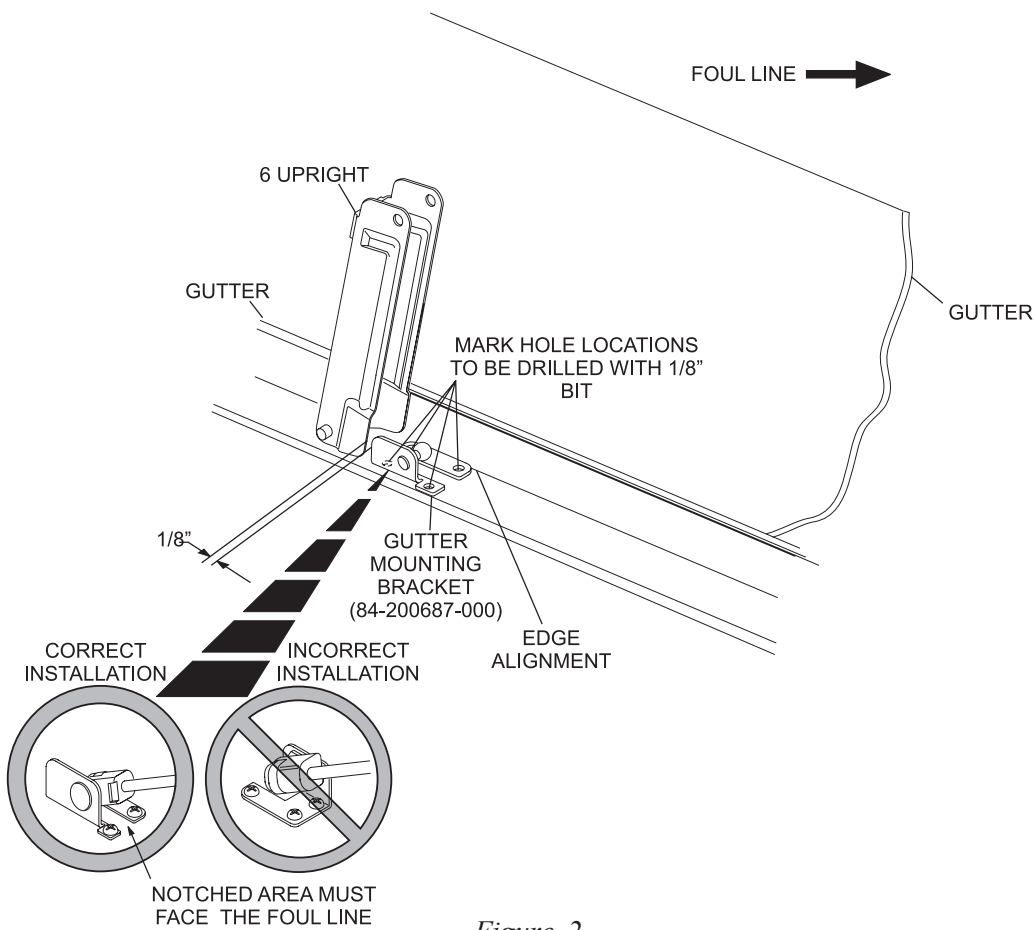

Figure 2
- With the 6th upright in the full up position, install the gutter mounting bracket, #84-200687-000, approximately 1/8" away from the 6th upright toward the foul line. Align the long edge of the bracket with the gutter. Be sure to position the rail mounting bracket in the orientation shown in *Figure 2*. The cutout is towards the foul line. With a felt tip marker, accurately mark the location of the (4) holes in the bracket onto the gutter. Refer to *Figure 2*.